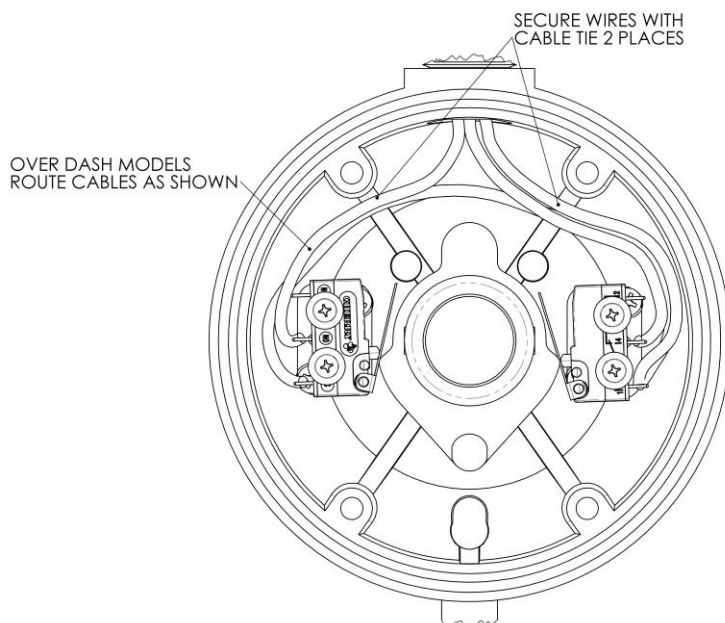
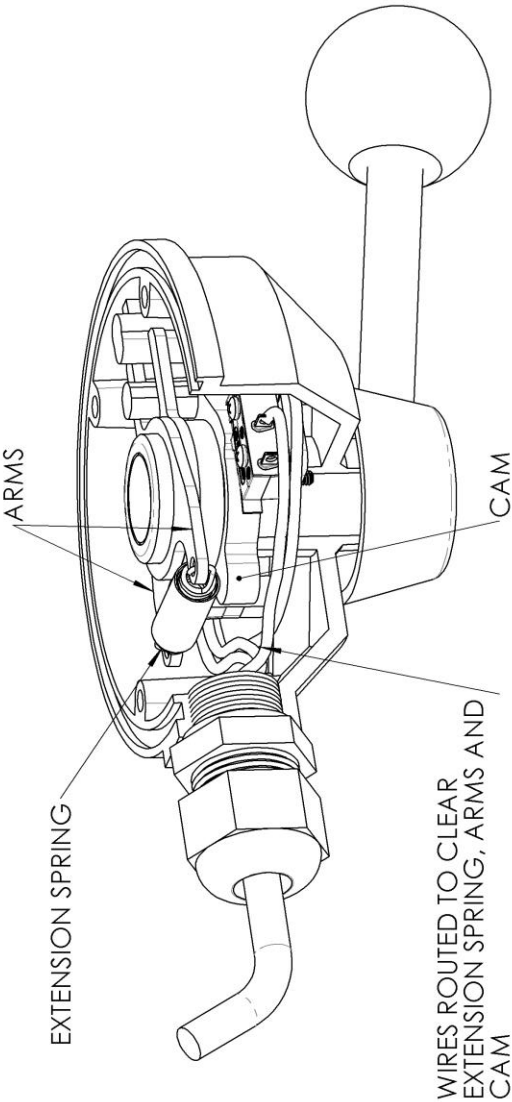

Figure 17: Microswitch wire routing, 7170-A1 shown.
Figure 18: Wire routing showing particular parts to ensure adequate clearance, 7170-A1 shown.
1. The actuation lever of microswitch ② is clear of any obstructions through its range of motion.
2. The microswitch ② lever is depressed enough to actuate the switch contacts when the jog lever is pushed.
This can be done by checking for continuity across the Normally Open(N.O) terminal 4 and the Common(C) terminal 1. See Figure 17 for clarity on terminals being checked. When the switch is depressed, terminal 1 and 4 should have continuity.
3. The microswitch ② lever is not over actuated:
For over dash jogs(7170-X1) refer to the routing shown in Figure 17 and Figure 18.
Ensure that wires are clear of moving parts such as the cam, spring arms and spring as identified in Figure 18.
15. Use X2 plastic cable ties to secure the routed wires together in the positions indicated in Figure 17.